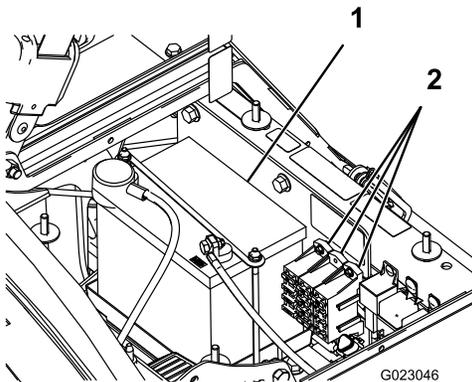

Figure 46
There are 2 fuse blocks and 1 empty slot in the electrical system. They are located beneath the seat (Figure 46).
2. The battery is located on the right side of the machine behind the pump (Figure 46).
5. Remove the battery retainer and fasteners (Figure 46).
2. Install the battery retainer and secure it with the fasteners you removed previously (Figure 46).
4. Install the battery cover and secure it with the 2 knobs (Figure 46).
1. Loosen the knobs on the sides of the battery box and remove the battery cover (Figure 46).